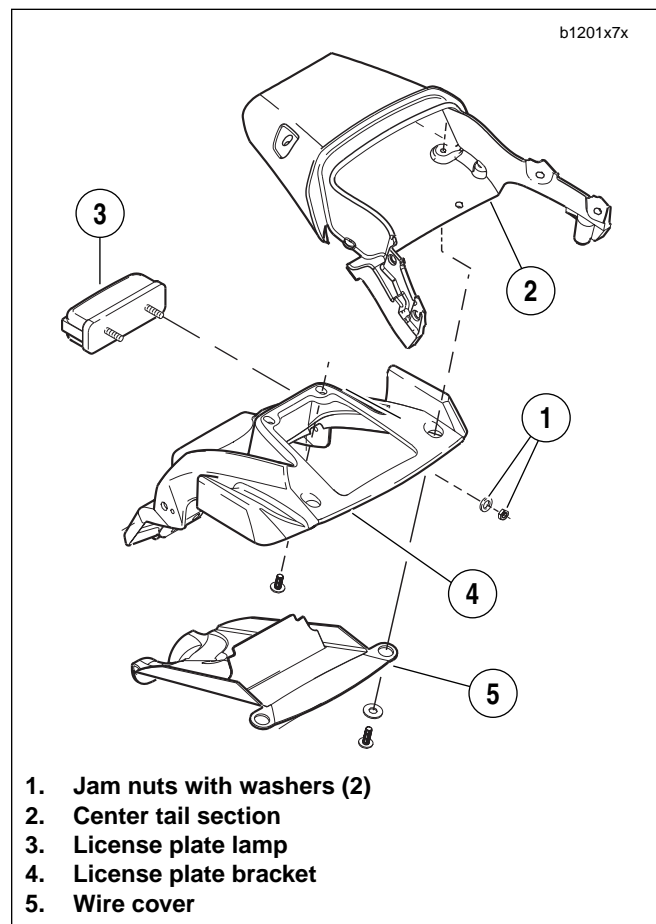

Figure 7-52. License Plate Lamp
1. See Figure 7-52. Install new license plate lamp assembly.
- a. Insert license plate lamp wiring harness through hole and route into the center tail section (2) and the license plate bracket (4).
- b. Attach lamp (3) to tail section using washers and jam nuts (1) and tighten to 12-36 **in-lbs** (1.4-4.1 Nm).
- c. Install the wire cover (5) for rear wiring.
2. See Figure 7-52. Remove rear wire cover.